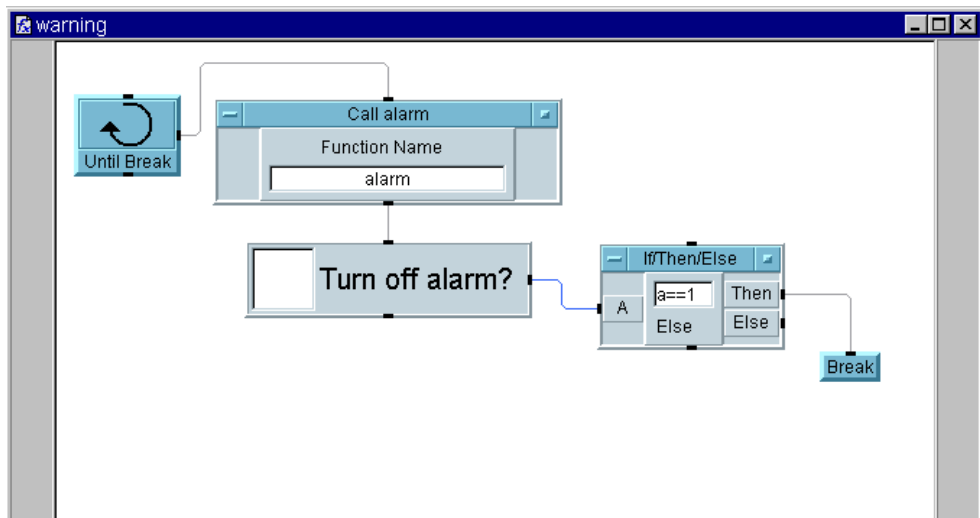

Figure 272 The Warning UserFunction (Detail View)
- 19 Select **Flow** ⇒ **Repeat** ⇒ **Break** and connect it to the **Then** output on the **If/Then/Else** object, as shown in Figure 272.